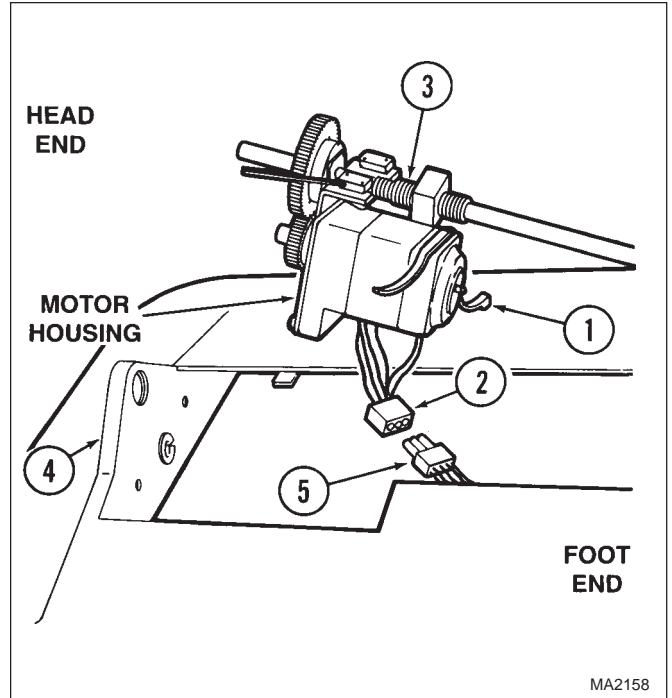

Figure 4-32. Lateral Tilt Drive Assembly Removal
- transducer plate (10) from trendelenburg plate (11).
- (34) Cut cable tie (12) which secures wires to connector.
- (35) Pull connector and wires thru the wire slot in transducer plate (10) and remove the transducer plate.
- (36) Cut cable tie (1, Figure 4-32) which secures lateral tilt wire harness (2) to motor housing of lateral tilt drive assembly (3).
- (37) Push the lateral tilt drive assembly (3) toward the foot end of the surgery table until the head end of the lateral tilt drive assembly becomes free of trendelenburg plate (4).